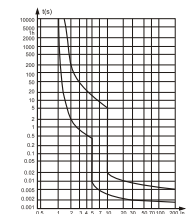

Figure 1 C-type thermal / Electromagnetic tripping characteristic curve
- The protection characteristics curve of the circuit breaker is shown in the figure 1.